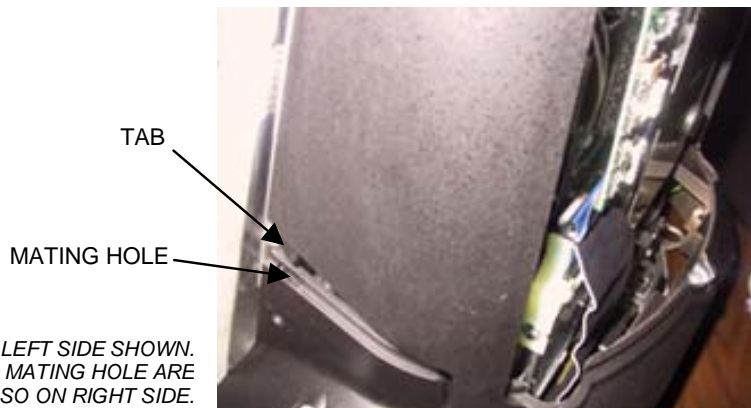

FIGURE 10 - SIDE VIEW OF GAME
11. Reconnect the ground wire to the rear cover and lower the cover into place, carefully lining up the 2 tabs on the cover with the 2 mating holes on the sides of the game (see Figure 10). Make sure that the plastic lip on the bottom of the rear cover is behind the metal base. Tighten the screw securing the bottom of the door. (Figure 2). Turn the wing on the draw latch clockwise to engage the latch (see Figure 1).